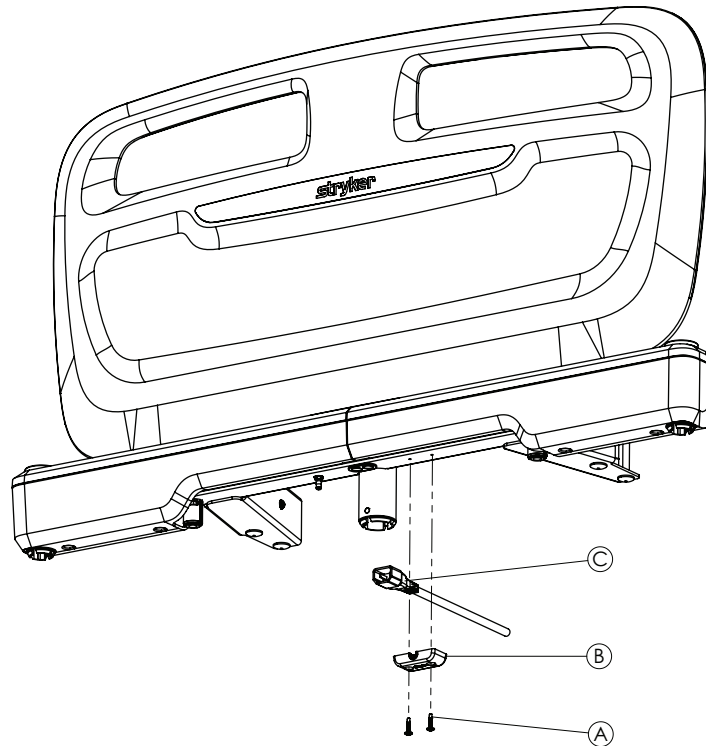

Figure 30 – Power cord assembly
4. Using a #2 Phillips screwdriver, remove the two screws (A) that secure the plastic cable holder (B) to the litter frame (Figure 30). Discard the screws.
5. Remove the external power cord (C) from the internal power cord. Discard the external power cord.